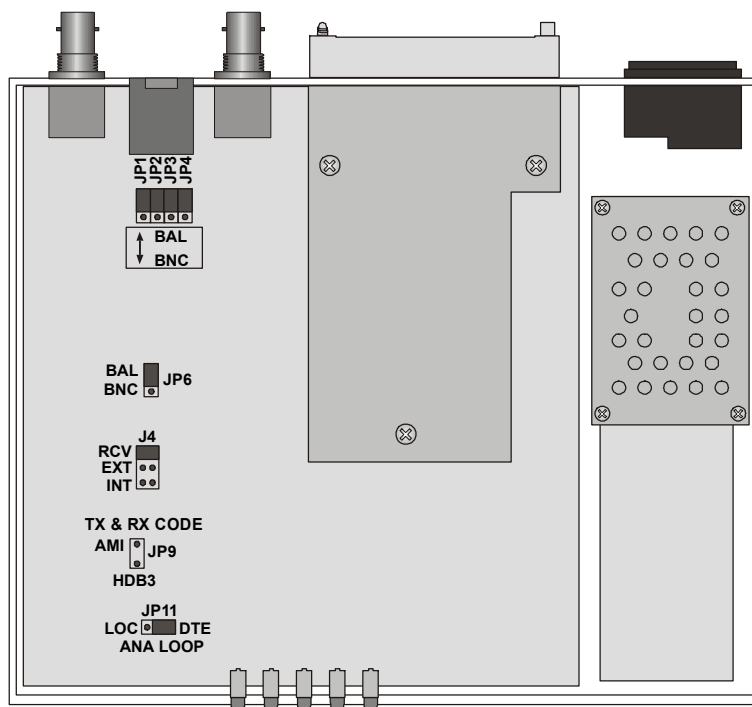

Figure 2-1. RIC-E1 Jumper Locations
This section explains how to set the internal jumpers according to your requirements. Figure 2-1 shows the RIC-E1 jumper locations.
5. Adjust the RIC-E1 internal jumpers, as described in Table 2-1. Figure 2-1 shows the jumper locations.